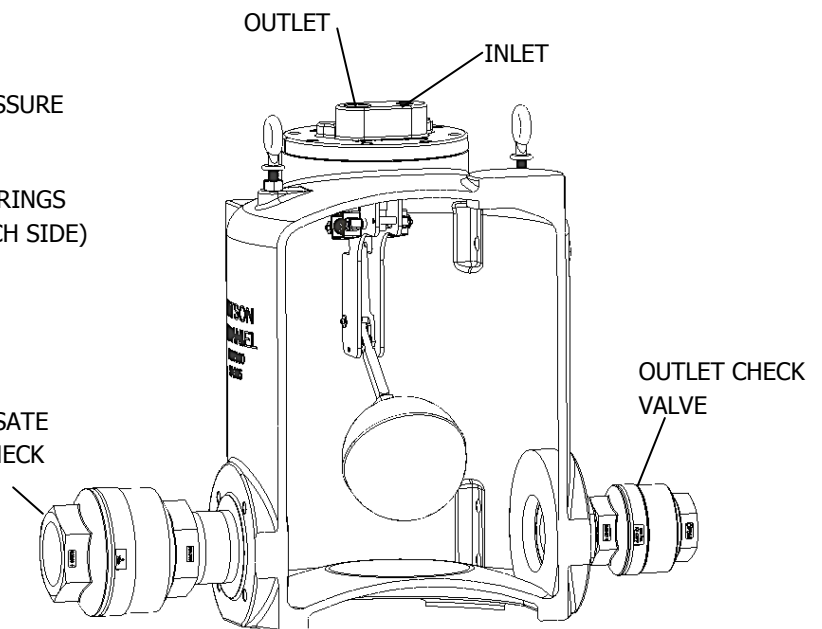

Figure 9: PMPC Cutaway View
5. Make sure the pump mechanism is in the proper orientation when reassembling. Proper orientation can be seen below in Figure 9. Pump mechanism must be inserted perpendicular to check valve direction. Make sure cover gasket is installed along with the pump cover. A replacement gasket may be necessary when reassembling the pump. Cover bolts should be torqued to 32 ft-lbs. Reconnect the motive and vent lines to the pump, refer to the installation instructions section for reference. After the pump is reinstalled, follow the start-up procedures to bring the pump into operation.